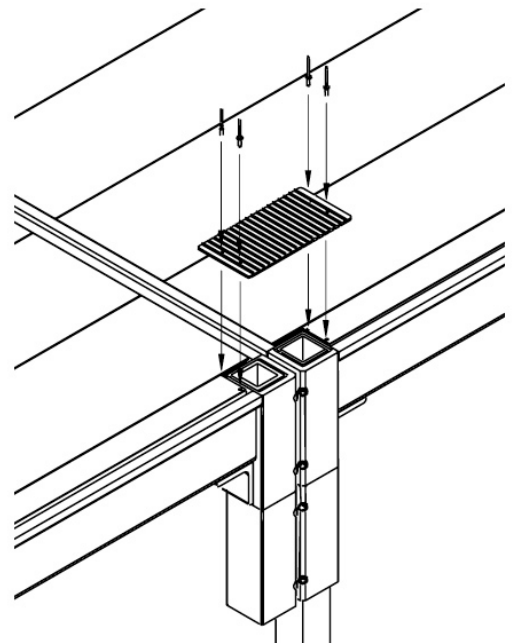

FIG. 12
- 1.7.9 Once the deck is complete all areas where platforms connect that are not used to attach a guard, filler section or corner post must be covered with a Corner Cover Plate (FIG. 12).